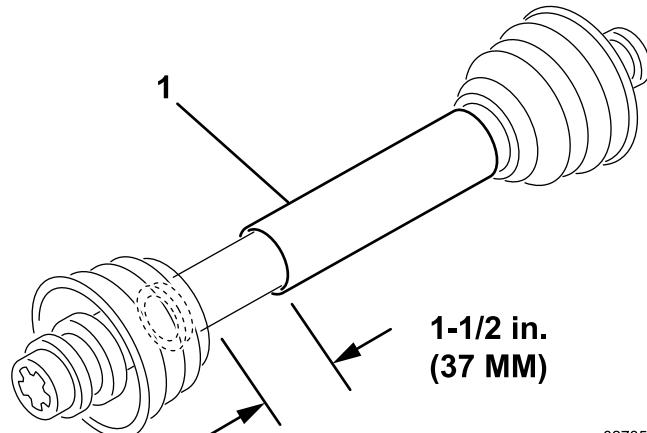

Figure 4
3. At its shortest length, the 2 halves of the PTO shaft must have at least 37 mm (1-1/2 inches) of additional clearance to collapse (Figure 4).